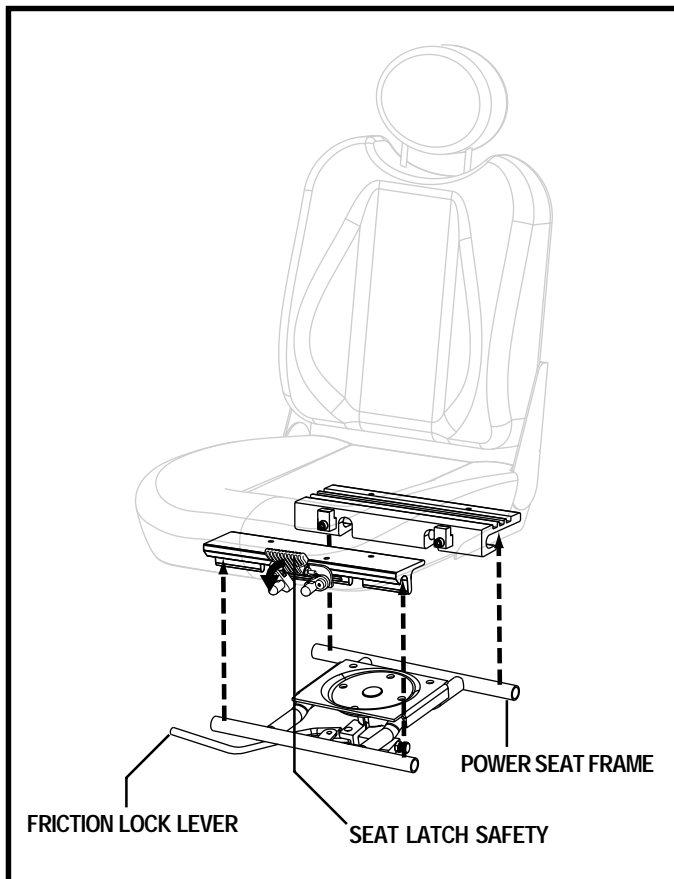

Figure 13. Power Elevating Seat Installation
2. Insert the seat post into the actuator and push the friction lock lever forward to lock the seat frame into place. See figure 13.